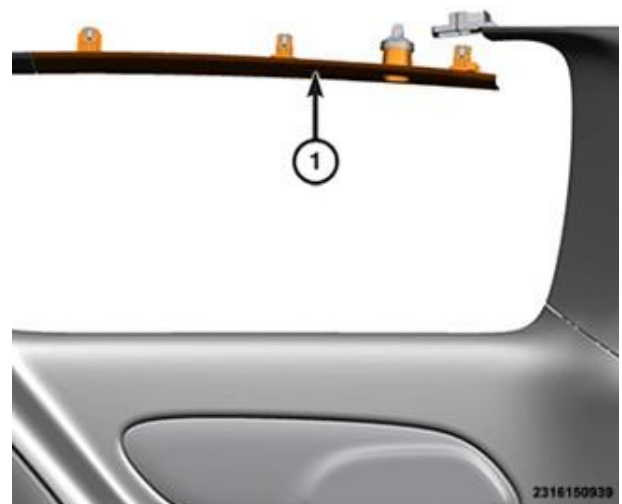

Figure 11 – C-Pillar Extension Trim
26. Using a trim stick or equivalent release the retaining clips on the extension trim and let extension trim hang like image because the left side extension trim panel is molded to the D-pillar trim (Figure 11).